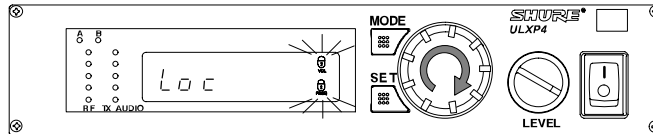

FIGURE 44
2. Rotate the control knob until one or both of the lock icons flashes on the receiver display, as shown in Figure 44.
3. To activate the flashing lock icon(s), press the SET button. The display will return to the default mode and the lock icon will appear on all display screens. See Figure 44.